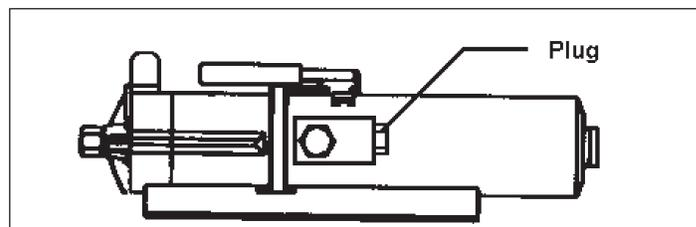

Figure 2
1. Remove pipe plug from the female ½" NPTF hydraulic connector (see Figure 2) and install the male end of a ½" NPTF hydraulic fitting.